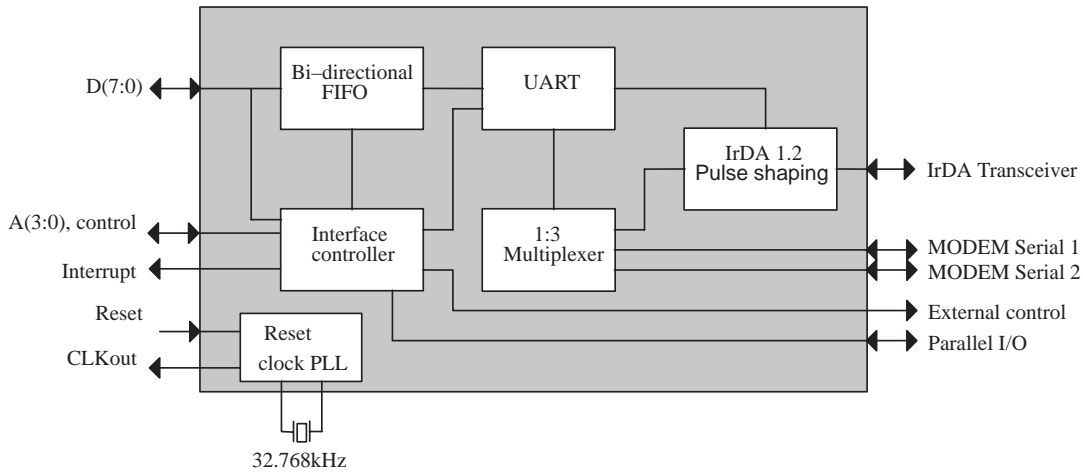
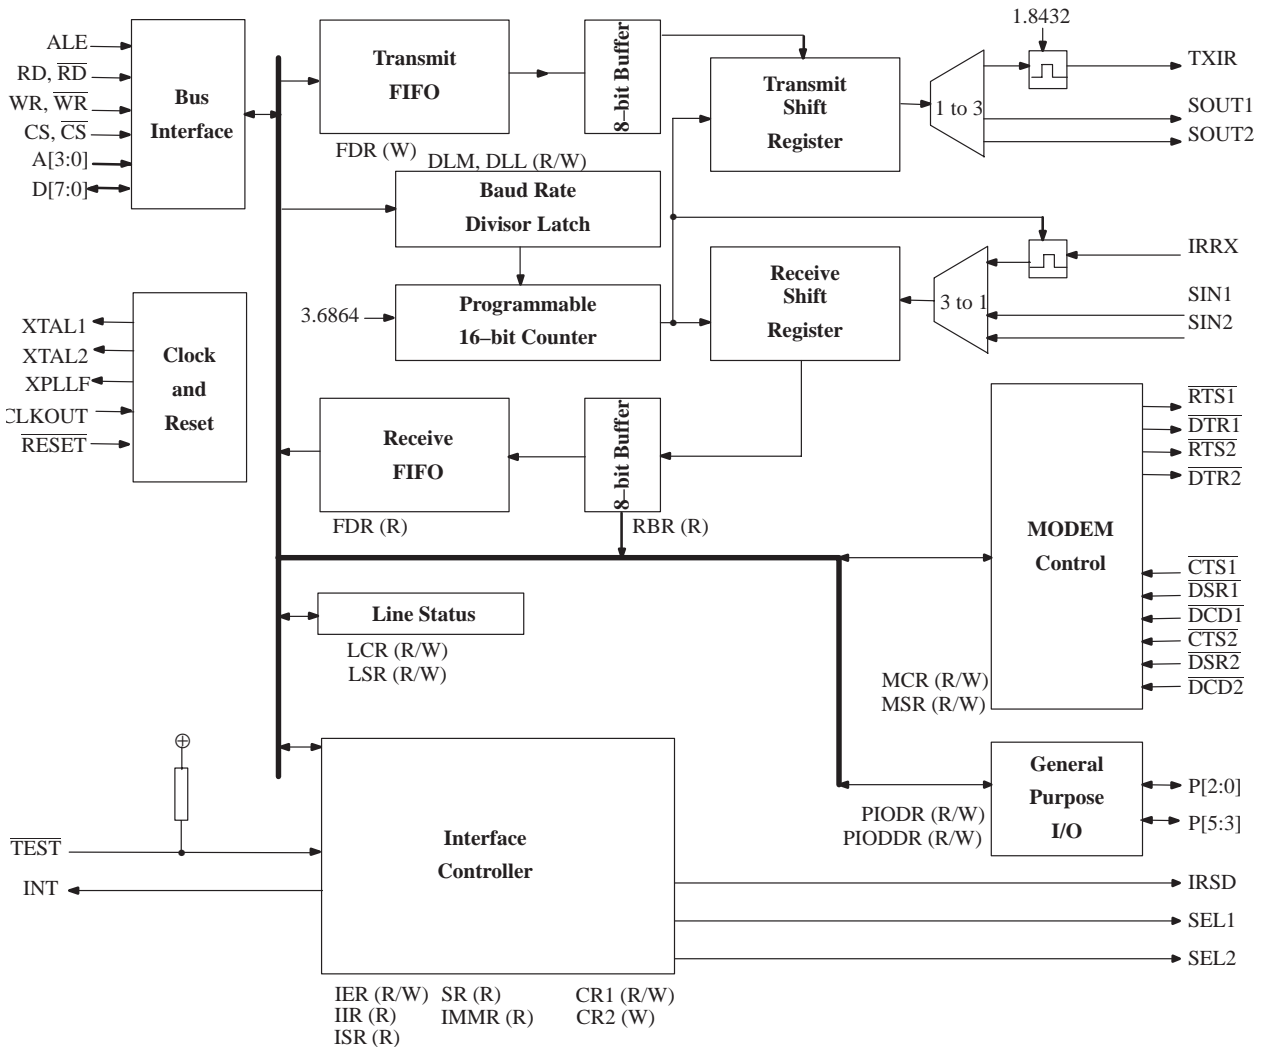

Figure 1. Block Diagram of TSS4550.
Figure 2. Detailed Block Diagram of TSS4550.
Figure 1. highlights the different functions included in TSS4550, which are further detailed in this section. Figure 2. provides a more detailed view highlighting how the registers are mapped to functions. The register names are given besides each block, along with their read/write capability (R/W). They are further detailed in the Programming Interface section.
The transmit and receive FIFO (see Figure 1.) are used to buffer the data between the UART and the external 8 bits data bus. These FIFO are 16 bytes deep in both directions, 8 bits wide in transmit (external bus to UART) and 10 bits wide in receive (UART to external bus). The wider receive path is used to convey the framing error and parity error information made available by the UART with each received byte. The received byte status bits are read from the FIFO using the status register (SR), see the Interface Controller section below.
The UART (see Figure 1.) is a high speed unit capable of operating at serial line speeds up to 115,200 bits/second from an internal clock input of 3.6864MHz. It supports the following signal lines: DTR, RTS, Serial output, DSR, DCD,
The 1 to 3 multiplexer (see Figure 1.) is used to route the UART serial input/output and MODEM input signals to and from one of three ports: the IrDA 1.0 interface and two MODEM serial interfaces. The multiplexer is controlled by two bits in the Interrupt Mask and Misc. Register (IMMR).
The interface controller (see Figure 2.) provides control and monitoring of the data transfers between the external bus and FIFO and the UART and FIFO. It also allows the UART to be directly accessed by the external bus for UART control and monitoring. Additional miscellaneous control functions are provided for features such as enabling of external devices and parallel I/O.